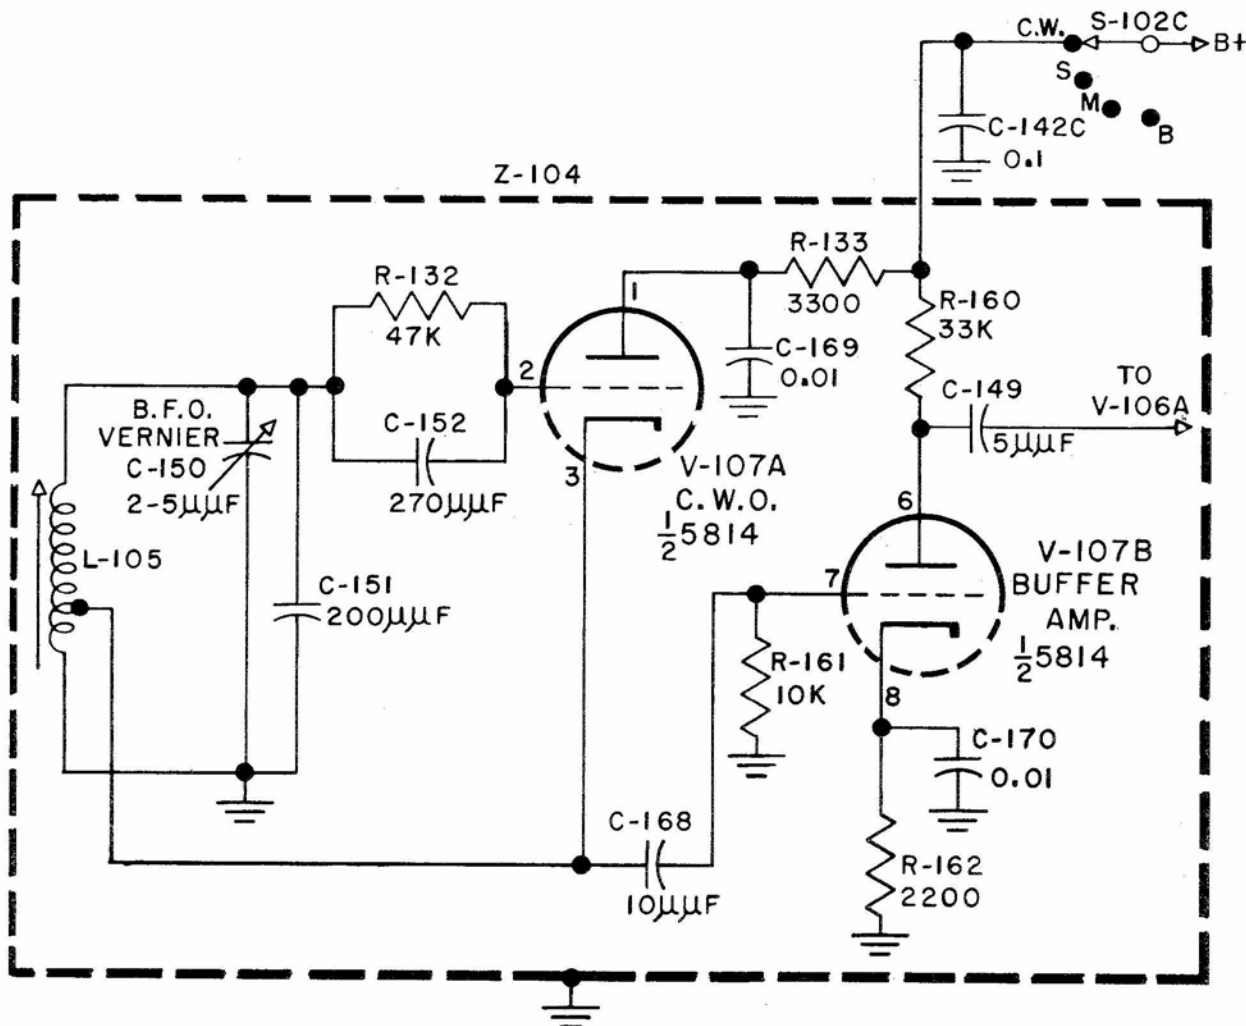

Figure 2-8. C.W. Oscillator V-107A and Buffer Amplifier V-107B, Simplified Schematic Diagram
b. C.W. OSCILLATOR V-107A AND BUFFER AMPLIFIER V-107B CIRCUIT DETAILS. (See Figure 2-8).—The C.W. oscillator consists of one-half of a type 5814 dual-triode, V-107A, in a conventional Hartley oscillator circuit with the plate of the oscillator tube at R.F. ground potential. The other half of the same tube, V-107B, is connected in an ordinary resistance-coupled amplifier circuit and serves as a buffer amplifier for the C.W. oscillator.